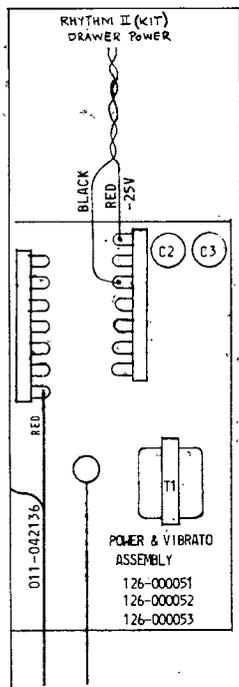

Figure A-17.
- f. Cut plug from ends of red and black wires attached to voice generator. Strip ends of wires  $1/4$  inch. Connect red and black wires to organ power supply terminal strip as shown in Figure A-17. Solder.